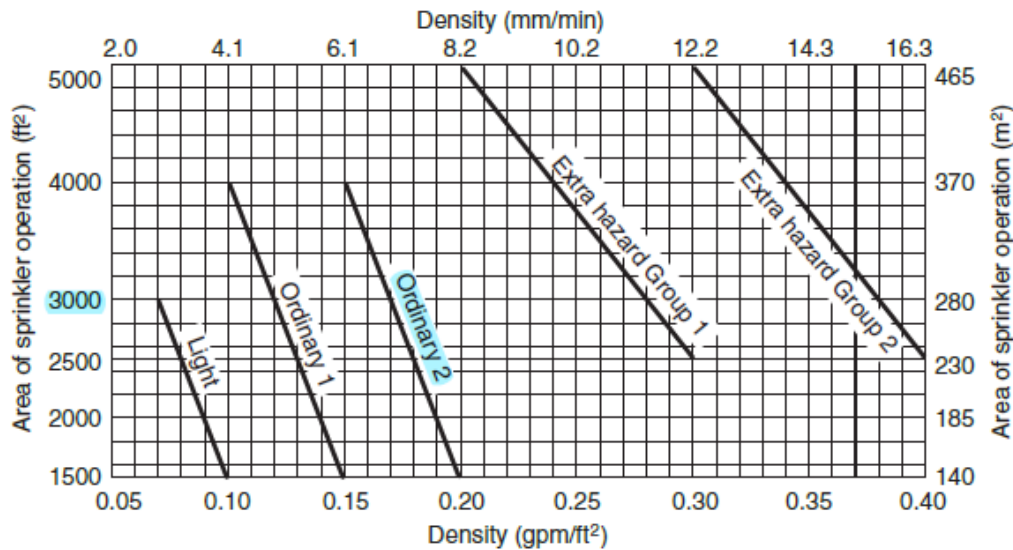

FIGURE 19.3.3.1.1 Density/Area Curves.
- Print sprinkler design on plans, including actual density and design area. For density/area curves see Figure 19.3.3.1.1 of NFPA-13 (2019). Design area reduction allowed for high-temp sprinklers per Section 19.3.3.2.6. of NFPA-13 (2019), see Figure 19.3.3.1.1 below.